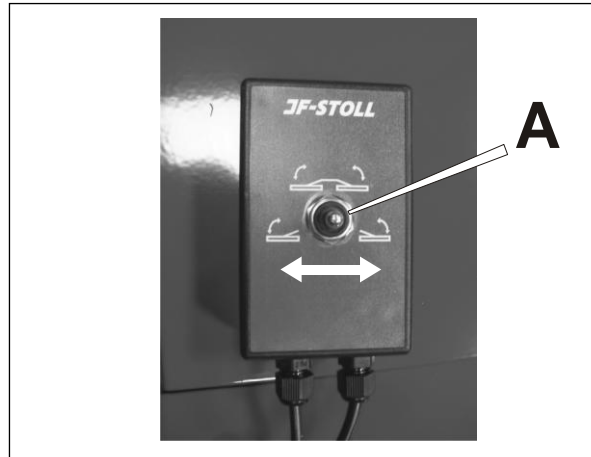

Fig. 3-16
**Fig. 3-16** The electric system consists of a control box which operates two on/off valves on the machine. When the switch **A** is in the middle position both cutting units are lifted/lowered simultaneously. When the switch **A** is in the left position, only the left cutting unit is lifted/lowered. When the switch **A** is in the right position, only the right cutting unit is lifted/lowered.